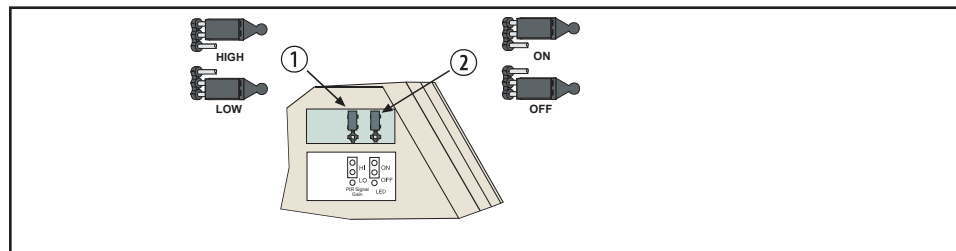

Figure 5.1: Feature Selection
Refer to Figure 5.1. For selection, place the plug across the appropriate pins (1). No jumper across the “HIGH/LOW” pins puts the detector in a “High” setting. Low Sensitivity (LO): The recommended setting for most installations. This setting tolerates environment extremes. **The detector is shipped in Low Sensitivity mode.** **High Sensitivity (HI):** Use in locations where adequate catch performance is not achieved in the Low Sensitivity mode. This setting tolerates only minor environmental changes.
Refer to Figure 5.1. The ON position allows operation of the LED (2). If LED indication is not desired after setup and walk tests are completed, place in the OFF position. **No jumper across the “ON/OFF” pins disables the LED.**